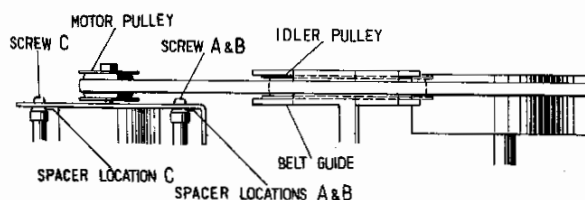

Fig. 5.6
Refer to the Fig. 5.6 and item 3.10, motor and motor governor ass'y removal procedure.
- (1) Adjust the motor pulley position and check to insure whether the drive belt is travelling along the correct position and the staying at the correct position, i.e. the center part of motor pulley and the idler pulley without contacting the belt guide at the following modes: